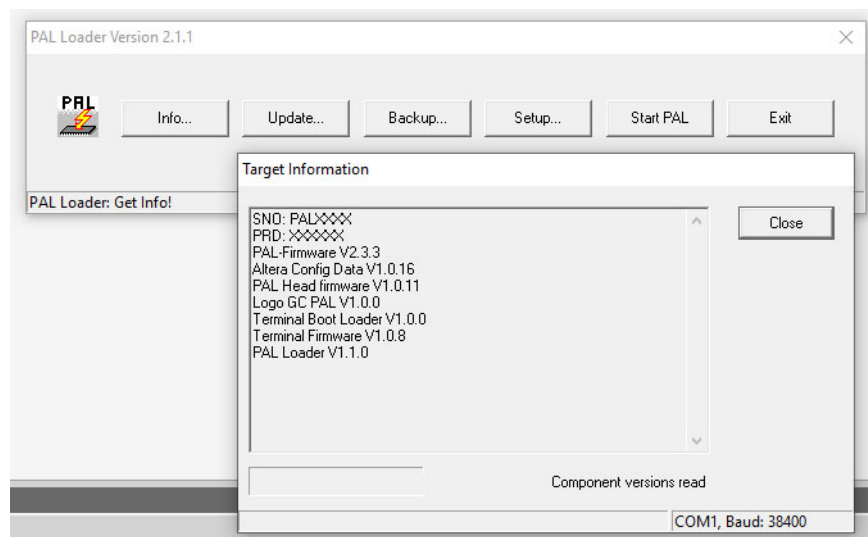

Figure 5-45. PAL Loader for Windows 10. Clicking Info opens the Target Information window showing the serial port COM1 to be used on Setup.
3. Open the PAL Loader application and check the communication to the CTC Pal 80 (here: COM1 serial port in the Qtegra measurement computer). See Figure 5-45.
2. After installation of the .sss file, click **Start PAL** on the PAL Loader window to send a <Start PAL> command (see Figure 5-45).
5. After installation of the .sss file, click **Start PAL** on the PAL Loader window to send a <Start PAL> command (see Figure 5-45).
2. Select “GB 6x9_10ml_20ml_50ml_100ml_250ml trays Denitrification_Kit_2018-10-25 (1).sss” for a new setup of trays for Denitrification or PreCon using special GasBench II sample trays.
4. Click **Start PAL** on the PAL Loader window to send a <Start PAL> command (see Figure 5-45).